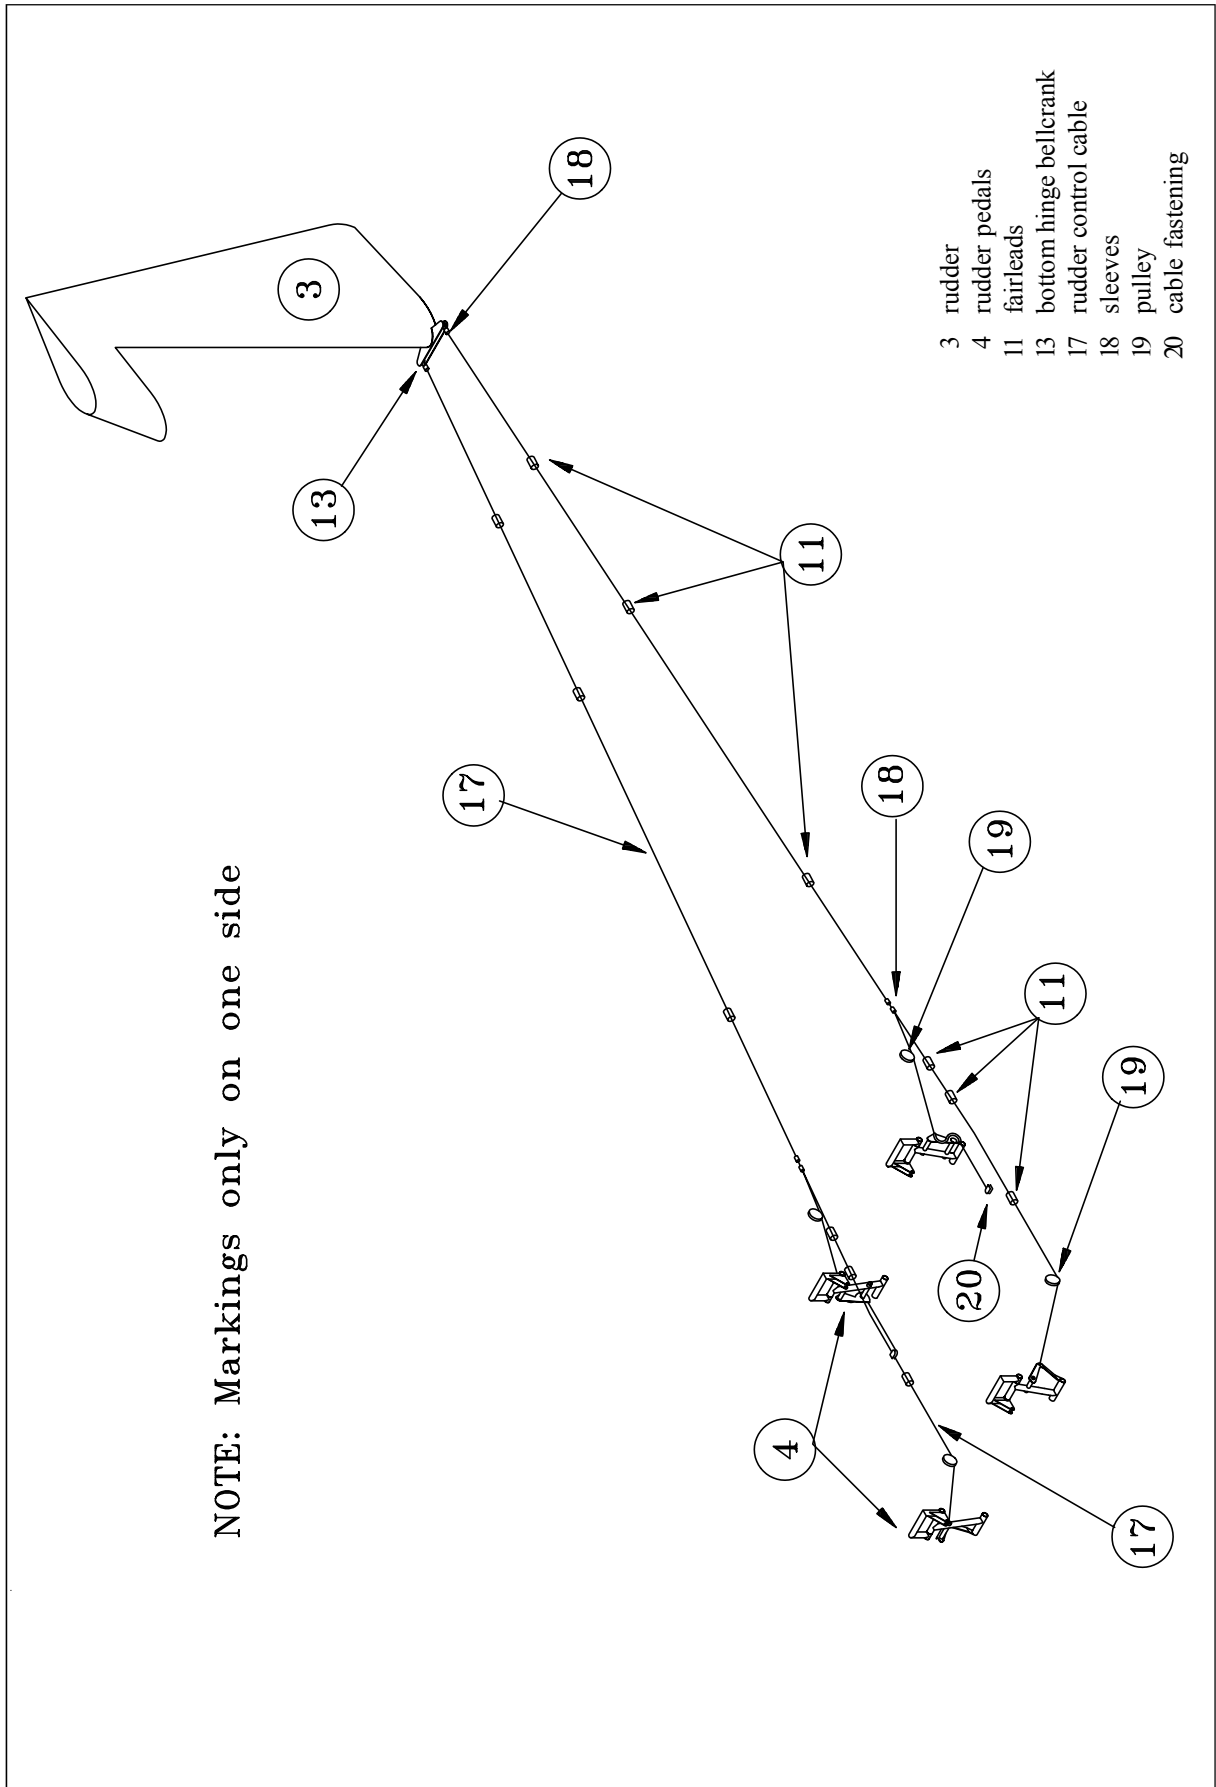
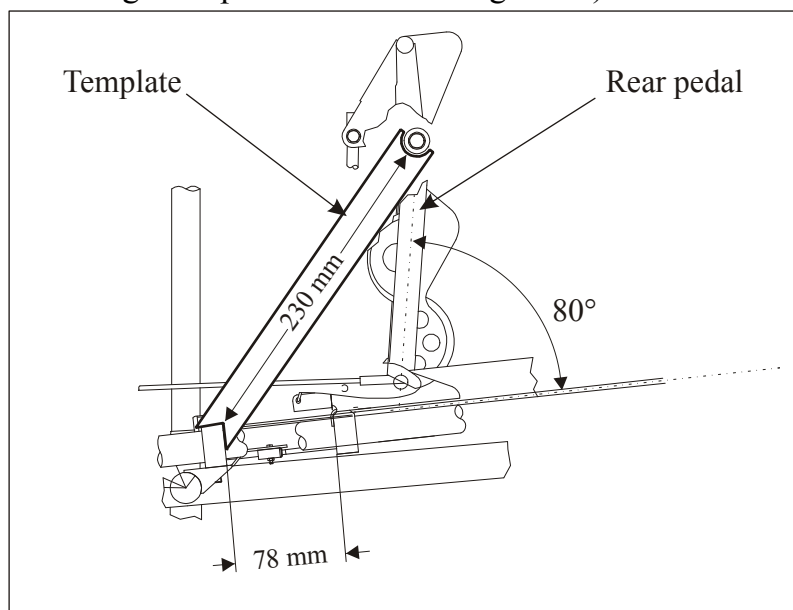

Figure 14
Figure 15 **Rear Pedal Template**
(Refer to Figure 14) The rudder pedals (4) are connected via a cable system (17) to the bottom hinge bellcrank (13). The cables are guided by fairleads (11). Springs (20) keep the cables under tension when they are not operated. Adjustment of the rear pedals (18) is made via multihole rod. The rudder (3) is mounted at three points in spherical bearings pressed into an aluminium hinge resp. into aluminium hinge arms. For lightning protection reason each hinge (arm) is grounded to the corresponding attachment bracket at the rudder by bonding leads. A travel stop plate is located at the bottom hinge bracket. A second safety stop is located at the rudder pedal bearing having the only purpose of protecting the lower brake system fitting in case of rudder cable failure.
- 2 Secure the rudder (3, Figure 14) in 0°-position.
- 3 Mount the pre-assembled eye end of the longer control cable to the LH cable fastening (20).
- 5 Thread the cable through the "S"-shaped tube at the pedal and the pulley (19).
- 6 Adjust rear rudder pedals (4) in rearmost position.
- 8 Slip 2 NICOPRESS (National Telephone Supply Co., Cleveland Ohio) 18-3-M or 28-3-M sleeves (18) and 100 mm 771095 shrinking sleeve on the control cable.
- 9 Thread the free end of the control cable through the rear fairleads (11) and the hole in the fabric to the tail.
- 12 Fix rear pedals in neutral position (80° relative to the foot-rest using a template as shown in Figure 15).